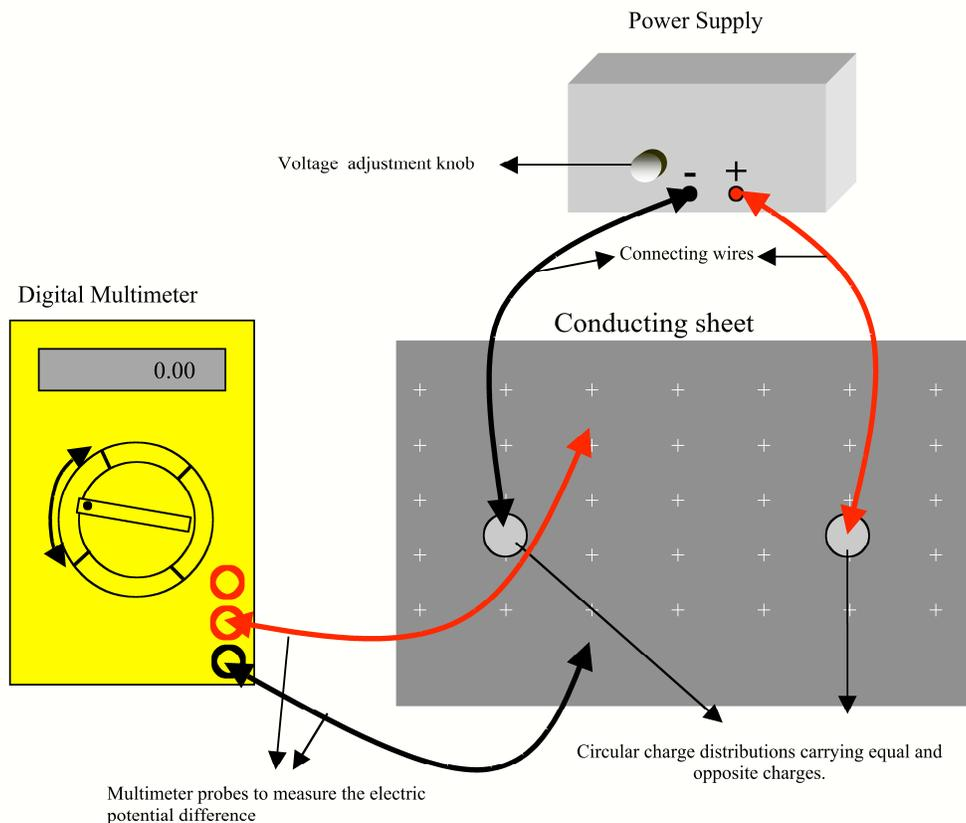

Figure 4 Experimental setup
2.1 Refer to the experimental setup shown in Figure 4.
2.5 The electric potential difference between any two points on the conductive sheet is measured with the *Digital Multimeter* (refer Figure 4).
2.8 Adjust the voltage knob on the power supply (see Figure 4) so that the electric potential difference between the two disks is approximately 12.00 V.